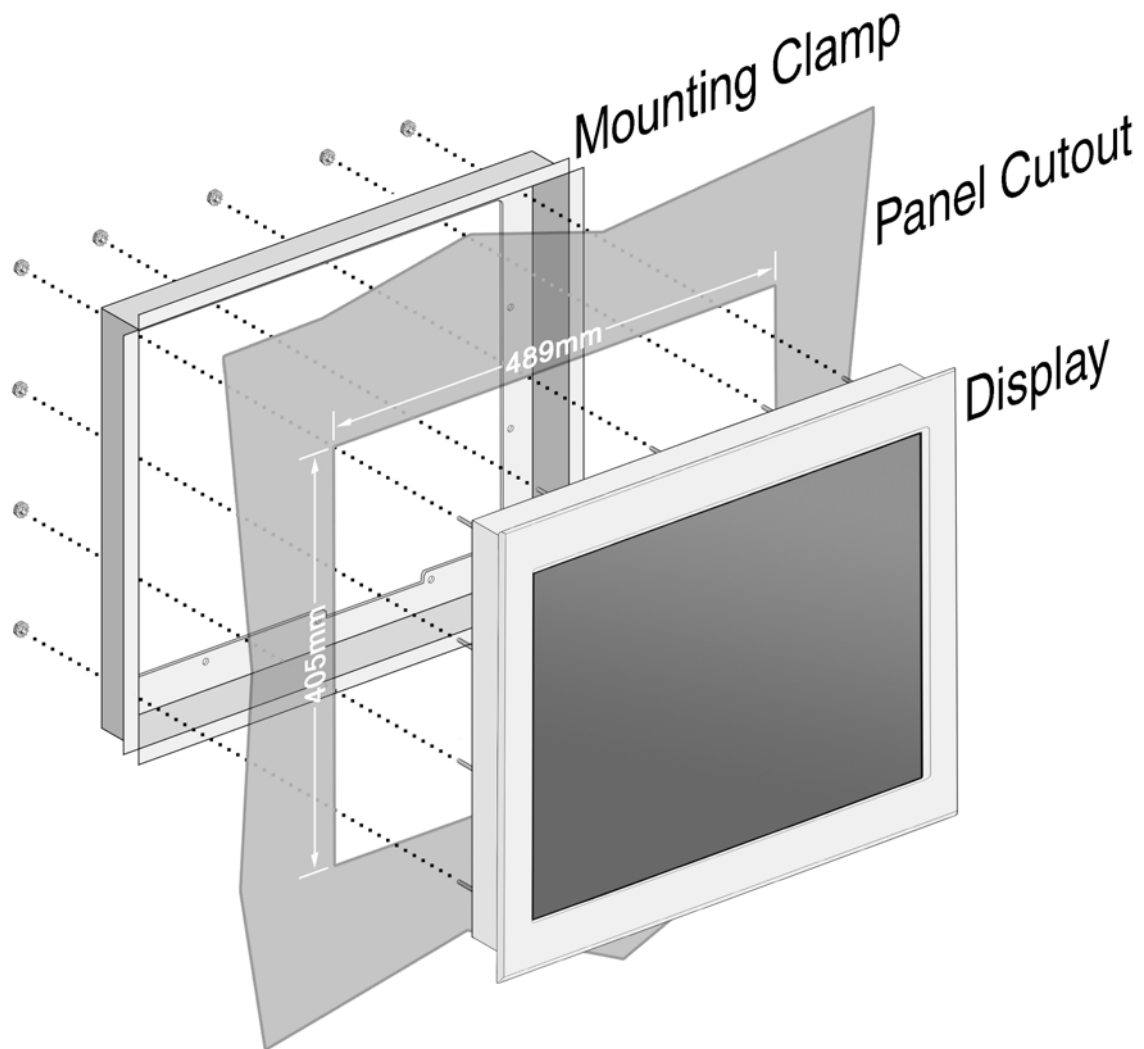

Figure 7: Flush Panel-Mount Landscape Installation
1. Panel cutout is 405mm H x 489mm W for landscape installation (Figure 7).
3. Align studs on the rear of display with the holes in mounting plate from the rear of panel (as seen in Figure 7).